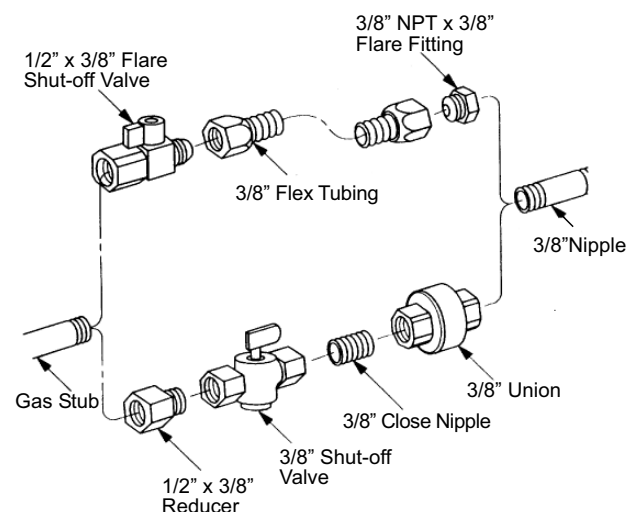

Figure 8.1. Supply valve connection fittings.
- All codes require a gas shut-off valve (gas cock) and union, to be installed in the supply line, and in the same room as the appliance. This allows for the disconnection of the stove for servicing and maintenance. See fig. 8.1.